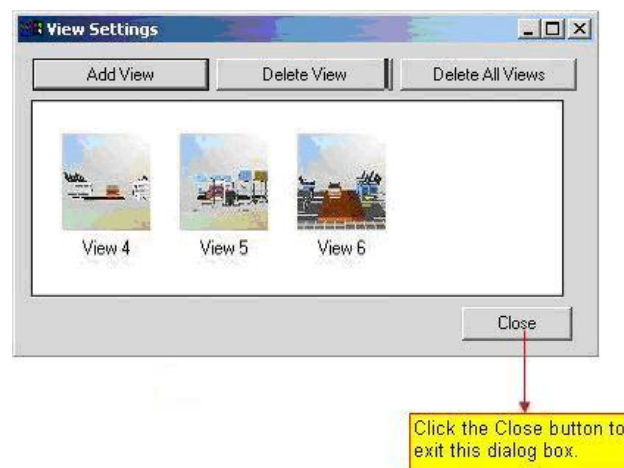

Figure 123: Saving View Settings
1) Open the *Save view settings* dialog using the *Graphic* menu. Please refer to the Figure 123.
- 4) Either click on the icon in the toolbar or open it using the Graphic menu. The *Save view settings* dialog box is opened. *Please refer to the Figure 123.*